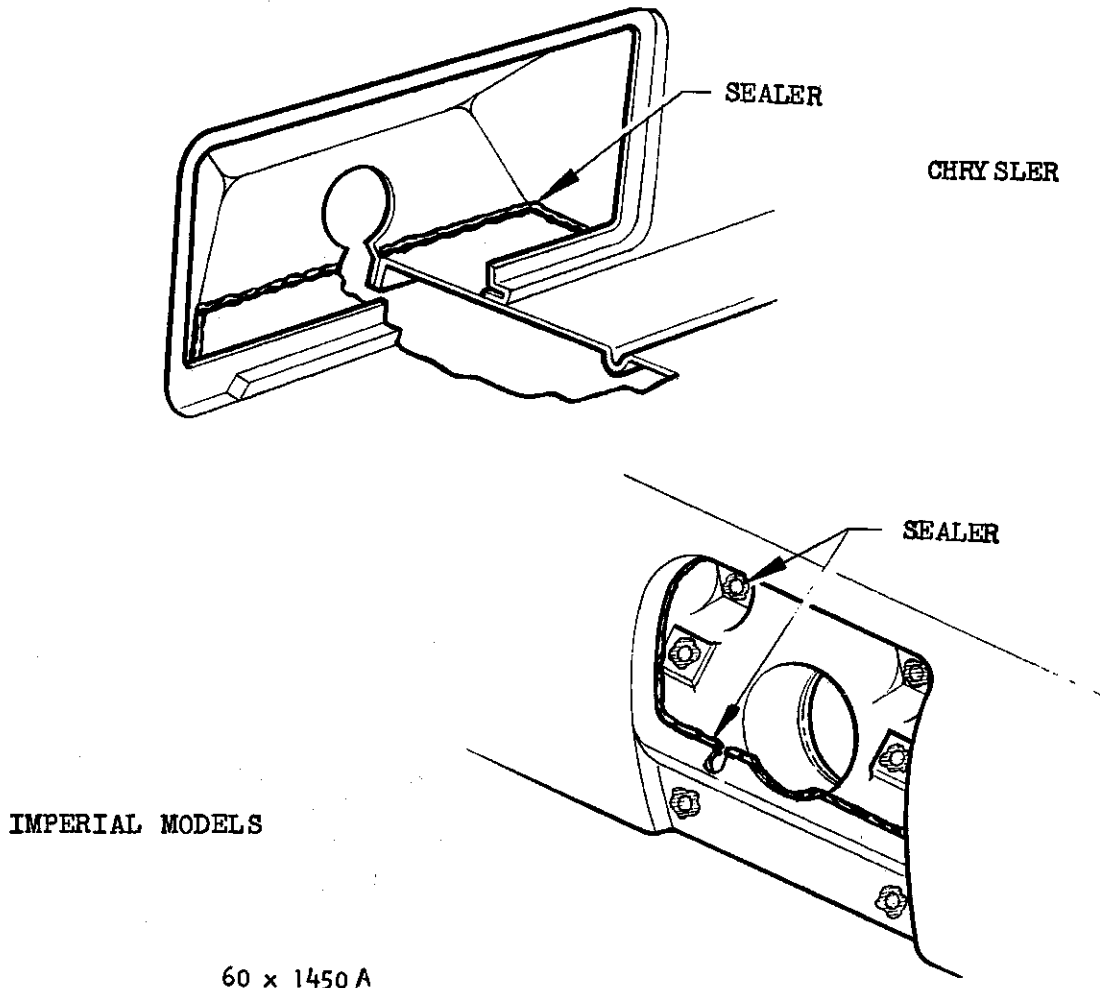

Fig. 28—Sealing the Fuel Filler Housing
30. HOUSING—FUEL FILLER (Fig. 28)